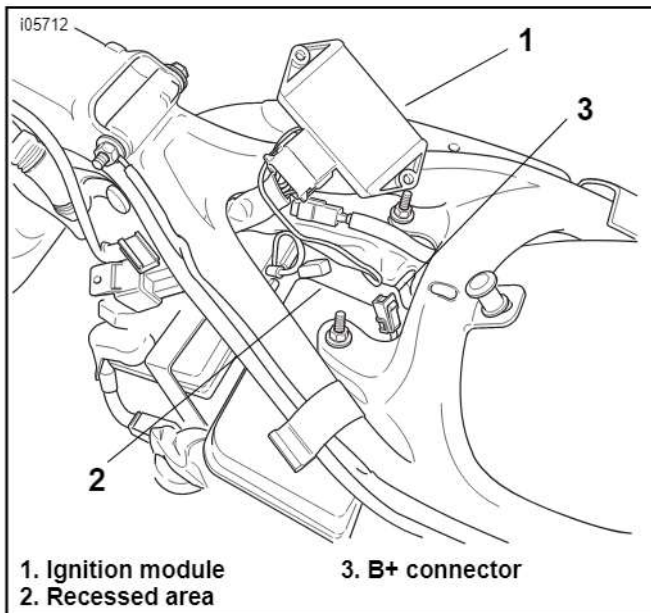

Figure 5. Install the Wiring Harness (2004 and Later Models)
2004 and later XL models: See Figure 5. Remove the nuts retaining the ignition module (1) and temporarily reposition the module as shown. Place the relay in the recessed area (2) of the oil reservoir. Install the ignition module. Route the long leg of the harness along the frame backbone.